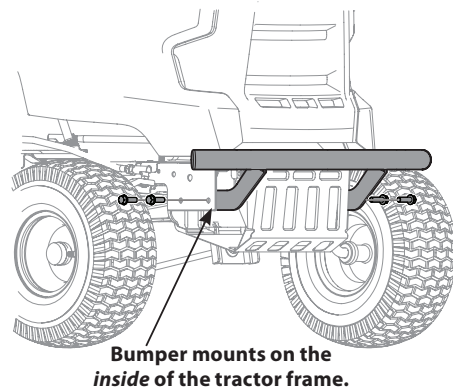

Figure 4
2. Position the bumper brackets to the *inside* of the tractor's frame and secure it in place with the four hex flange screws or four hex screws and four flat washers, depending on what this kit includes. See Figure 4.